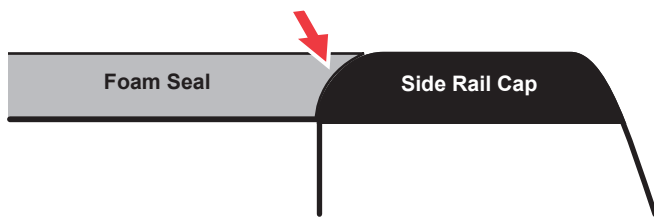

Figure 14
- c) Use scissors to cut foam seal at an angle to minimize the gap with side rail cap. (Fig. 14)